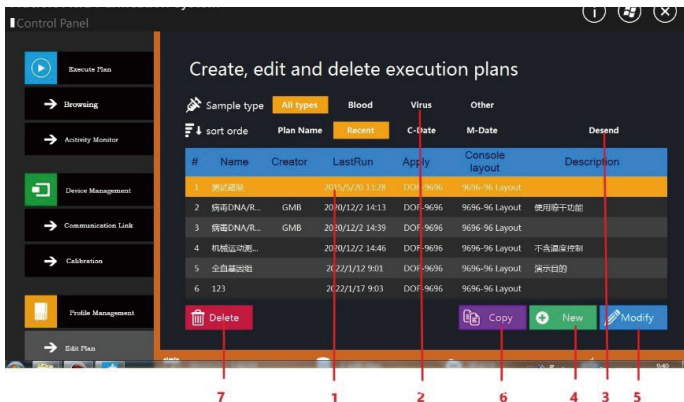

Figure 11. User Interface for Archive Management of Execution Plan
After clicking the "Edit Plan" menu item in the left function menu area of the main interface, the central operation interface area of the main interface presents the user with file management interface of the execution plan, as shown in Figure 11.
- ① in Figure 11 represents a list box of execution plans, and each row in the list box represents an execution plan stored in the system.
- ② in Figure 11 represents the sorting and screening setting area of the execution plan, and the user can sort and screen the execution plan displayed in the execution plan list box.
- ③ in Figure 11 represents an ascending or descending selection button for execution plan sorting.
- ④ in Figure 11 represents the command button of "Create". The editing page of creating execution plan will be presented after clicking the command button.
- ⑤ in Figure 11 represents the command button of "Modify". The editing page of modifying execution plan will be presented after clicking the command button.
- ⑥ in Figure 11 represents the command button shown of "Copy". Clicking the command button will automatically create a new execution plan and clone the contents of the currently selected execution plan in the execution plan list box.
- ⑦ in Figure 11 represents the command button "Delete". Clicking this command button will delete the currently selected execution plan in the execution plan list box. Before the deletion operation is executed, the system will pop up a deletion confirmation dialog box, and the selected execution plan will be deleted only after the user confirms the deletion.